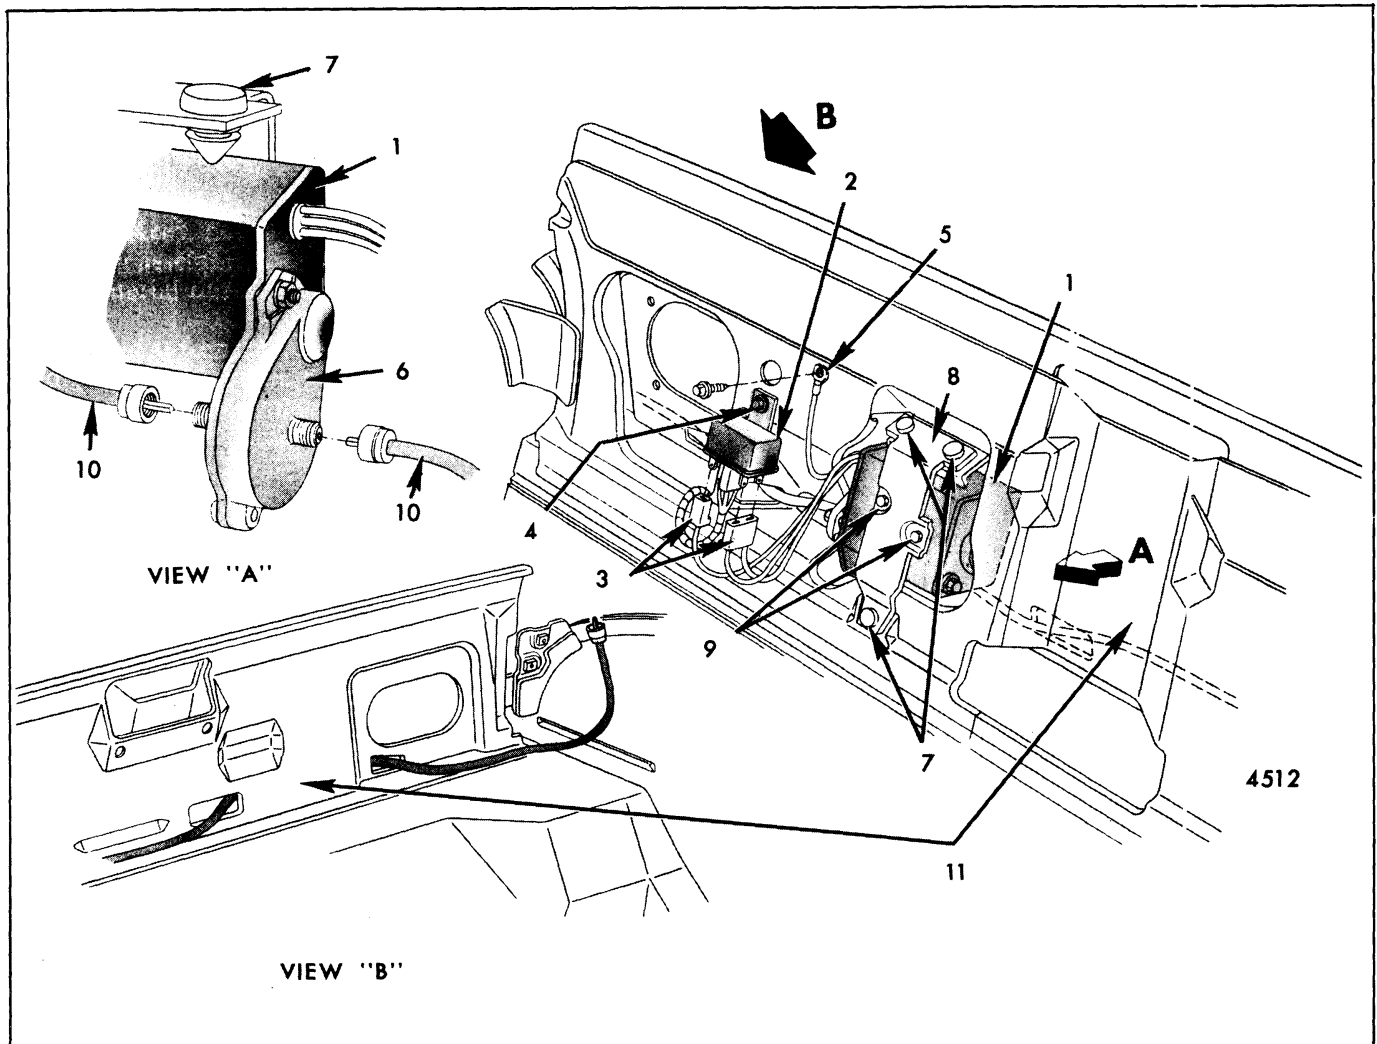

Fig. 8-66-Folding Top Electric Motor and Relay
The folding top electric motor and relay are secured to the rear seat back panel and are accessible in the rear seat area (Fig. 8-66).
3. Detach electric motor connectors from relay (Fig. 8-66).
6. Detach rubber grommets securing motor support to rear seat back panel (Fig. 8-66).
7. Detach right and left drive cables from electric motor reduction unit (Fig. 8-66).
3. Detach right and/or left drive cable at electric motor reduction unit (Fig. 8-66). For removal of left drive cable, first detach motor.